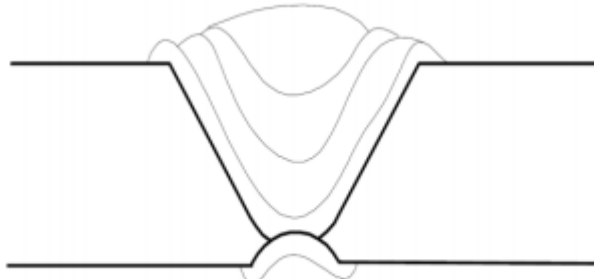

Fig 4. - Filled channels on material top and bottom side
- 13 Proceed as in steps 7-10 (Fig. 4).